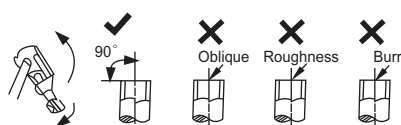

Fig. 23 — Pipe Cutting
- a. Cut the pipe, with a pipe cutter, at 90 degrees (see Fig. 23).